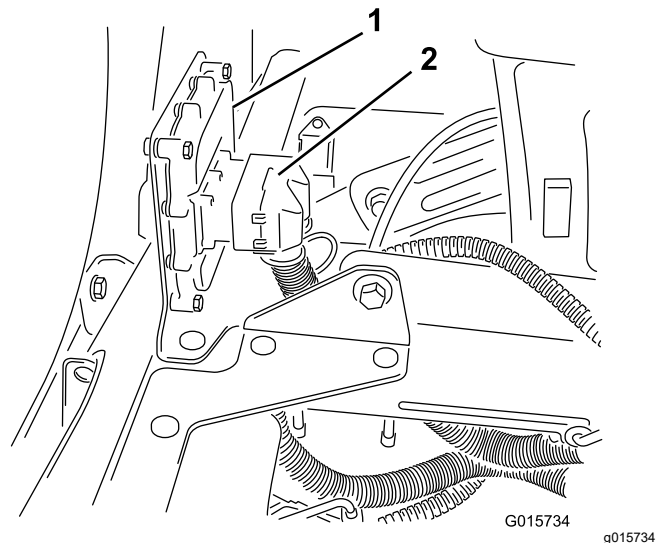

Figure 33
2. Connect the 50-socket connector of the wire harness for the sonic boom to the 50-pin connector of the electronic controller, and secure the connectors with the socket-head screw (Figure 33).